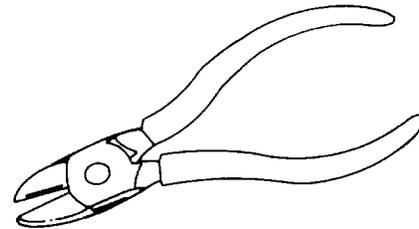

Figure 4-42. Diagonal Cutting Pliers
(2) *Diagonal cutting pliers.* The diagonal cutting pliers, shown in figure 4-42, have a fixed pivot. The jaws are offset by about 15-degrees and are shaped to give enough knuckle clearance while making flush cuts. The diagonal cutting pliers are used for cutting